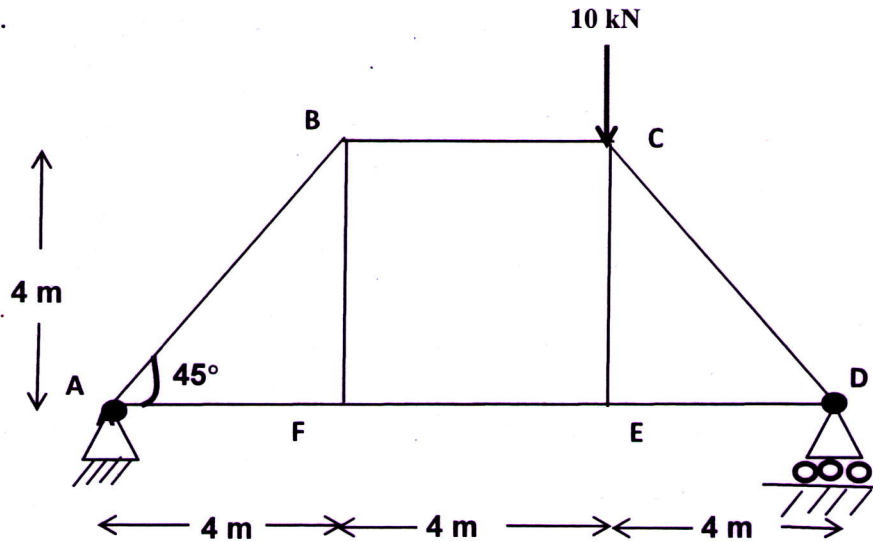

Figure 2
- 11 Analyse the truss shown in figure 2 using method of joints and tabulate the force table. 14